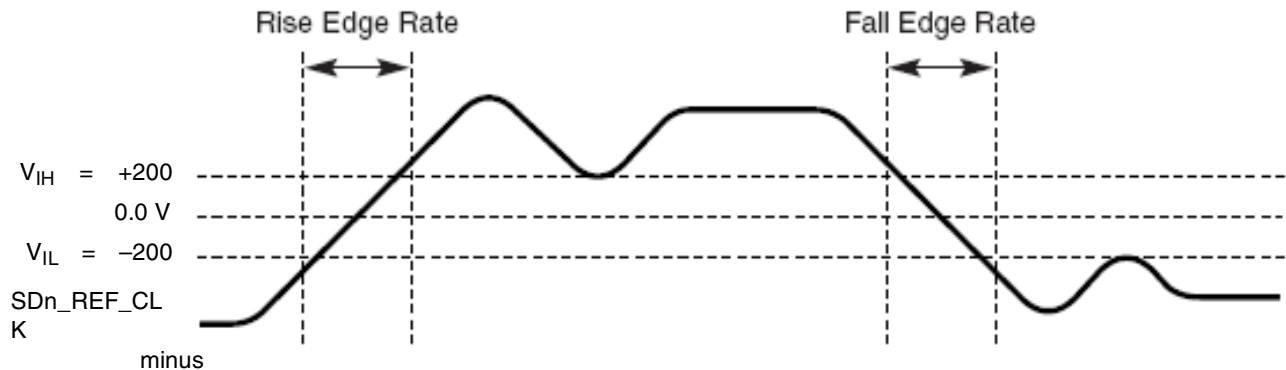

Figure 47. Differential Measurement Points for Rise and Fall Time
The differential waveform is constructed by subtracting the inverting signal (\overline{TXn} , for example) from the non-inverting signal (TXn , for example) within a differential pair. There is only one signal trace curve in a differential waveform. The voltage represented in the differential waveform is not referenced to ground. Refer to Figure 47 as an example for differential waveform.
3. Measured from -200 mV to +200 mV on the differential waveform (derived from SDn_REF_CLK minus SDn_REF_CLK). The signal must be monotonic through the measurement region for rise and fall time. The 400 mV measurement window is centered on the differential zero crossing. See Figure 47.